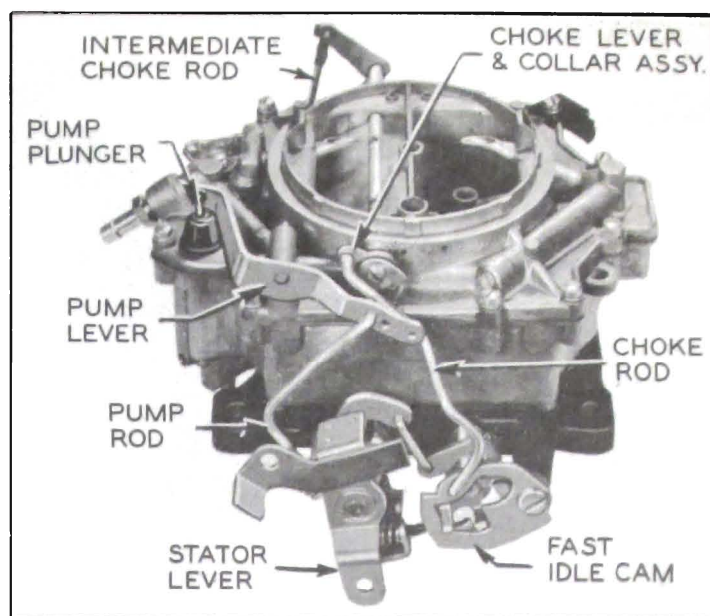

Figure 3-90—Exterior Linkage
1. Remove horseshoe clip from upper end of intermediate choke rod and disengage rod from choke shaft lever. See figure 3-90.
3. Remove choke trip lever and attaching screw. Disengage choke lever and collar assembly from choke shaft and disengage lower end of choke rod from fast idle cam. Then remove choke lever and collar, and choke rod as an assembly. See figure 3-90.